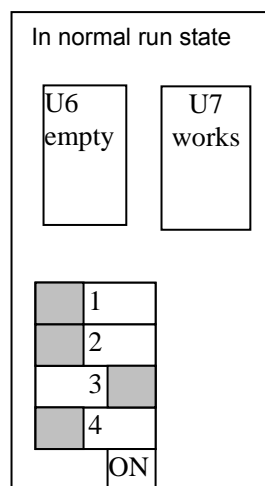
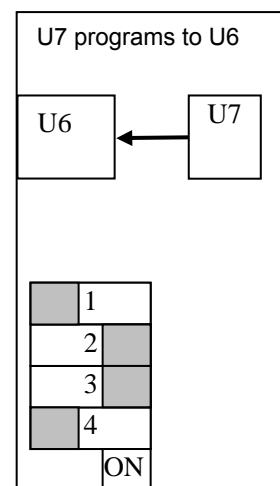

Fig.3
Fig.4
- 9) The system is turned off, the chip in U6 is pulled out, the joggle switch is as Fig. 3 to select the target chip, U7 runs.
When the system is turned off, the joggle switch is as Fig. 4, you operate it as the above methods, and then turn off the power supply to set the joggle switch as Fig. 3 and then pull out the chip in U6.